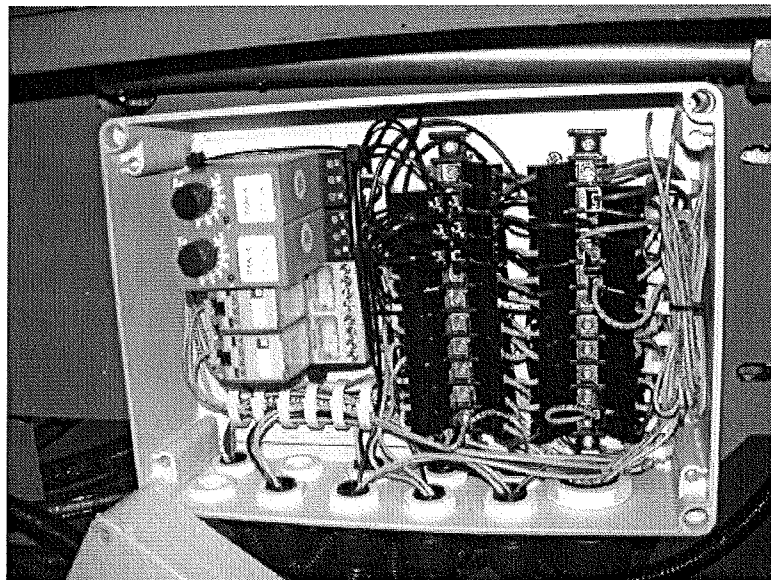

Fig 8.4
Inside the box mounted on the lid is a row of 2 timer relays. (Fig 8.4 item1).